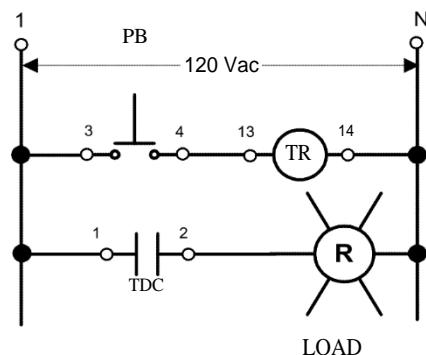

FIGURE 7.12
- Step 1:a) Set up the circuit shown in Figure 7.12. Note that the circuit input is connected to the fixed 120Vac output for the power supply, terminals 1 and N.